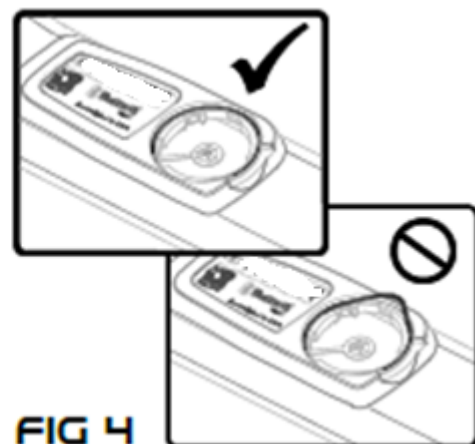

FIG 4
4. Before installing the battery cover take care to ensure the water seal o-ring is seated properly in its groove as illustrated in **FIG 4**.